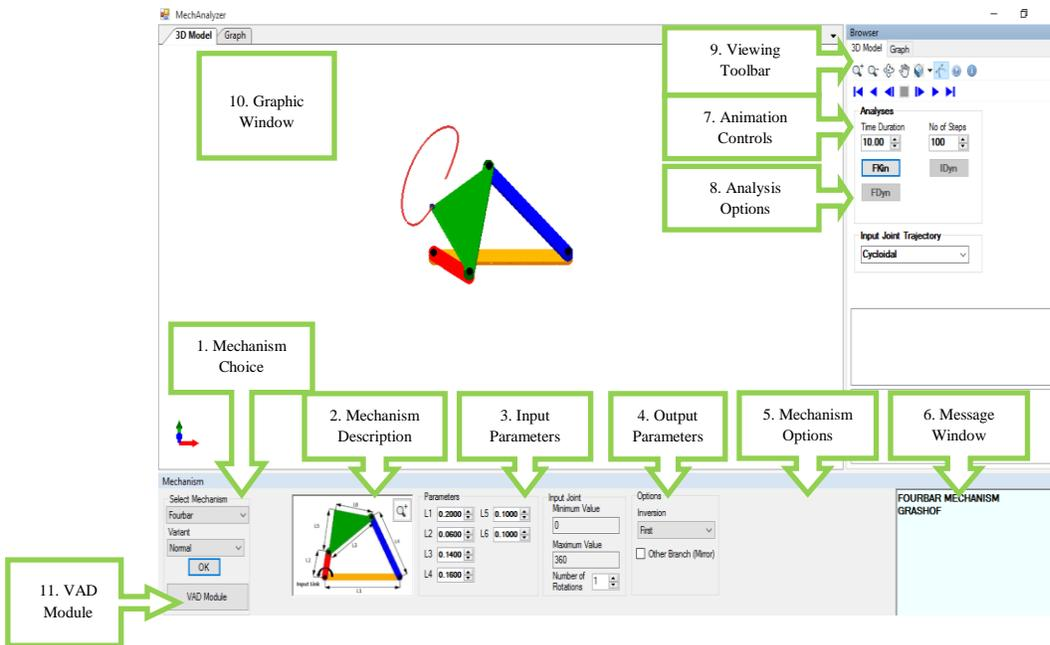

Figure 1: User Interface of MechAnalyzer V4
The version 4 of MechAnalyzer has been presented to the user in such a way that the user can easily get started with it. The user interface of the software as shown in Figure 1, can be divided into the following sections:
- The desired mechanism can be selected from the **Select Mechanism** (refer Figure 1) dropdown menu. The corresponding variant if it applies to the mechanism needs to be selected from the **Variant** (refer Figure 1) dropdown menu.